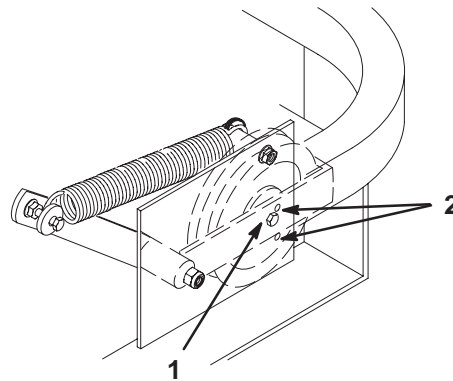

Figure 62
6. Check the belt tension. The center bolt of the spring loaded idler must be between the two alignment holes in the left support plate (Fig. 62).
Note: Check the position of the center bolt in the low height of cut setting. The center bolt must be at or below the top alignment hole. Check the position of the center bolt in the high height of cut setting. The center bolt must be at or above the lower adjustment hole (Fig. 62).
8. Check the belt tension again. The center bolt of the spring loaded idler must be between the two alignment holes in the left support plate (Fig. 62). Adjust it, if necessary, and tighten all hardware securely.